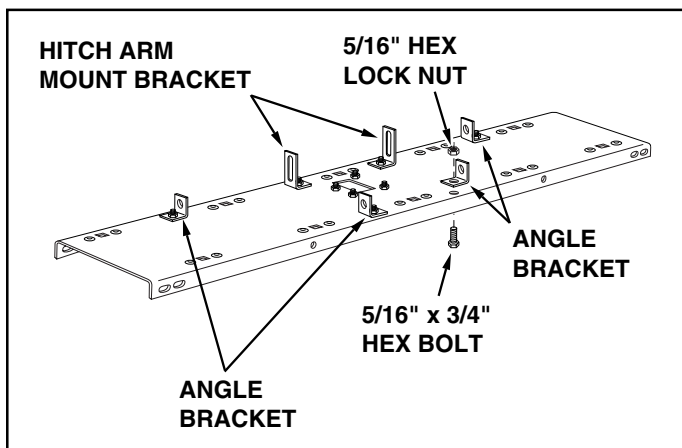

FIGURE 2
2. Turn the tine shield upside down. See figure 2.
3. Assemble two (tall) hitch arm mount brackets and two (short) angle brackets to the bottom of the tine shield. Fasten the brackets to the four **round holes** at the rear of the tine shield using four 5/16" x 3/4" hex bolts and 5/16" hex lock nuts. **Do not tighten yet.** See figure 2.
4. Assemble two angle brackets to the **round holes** in the bottom of the tine shield at the front. Use two 5/16" x 3/4" hex bolts and 5/16" hex lock nuts. **Do not tighten yet.** See figure 2.